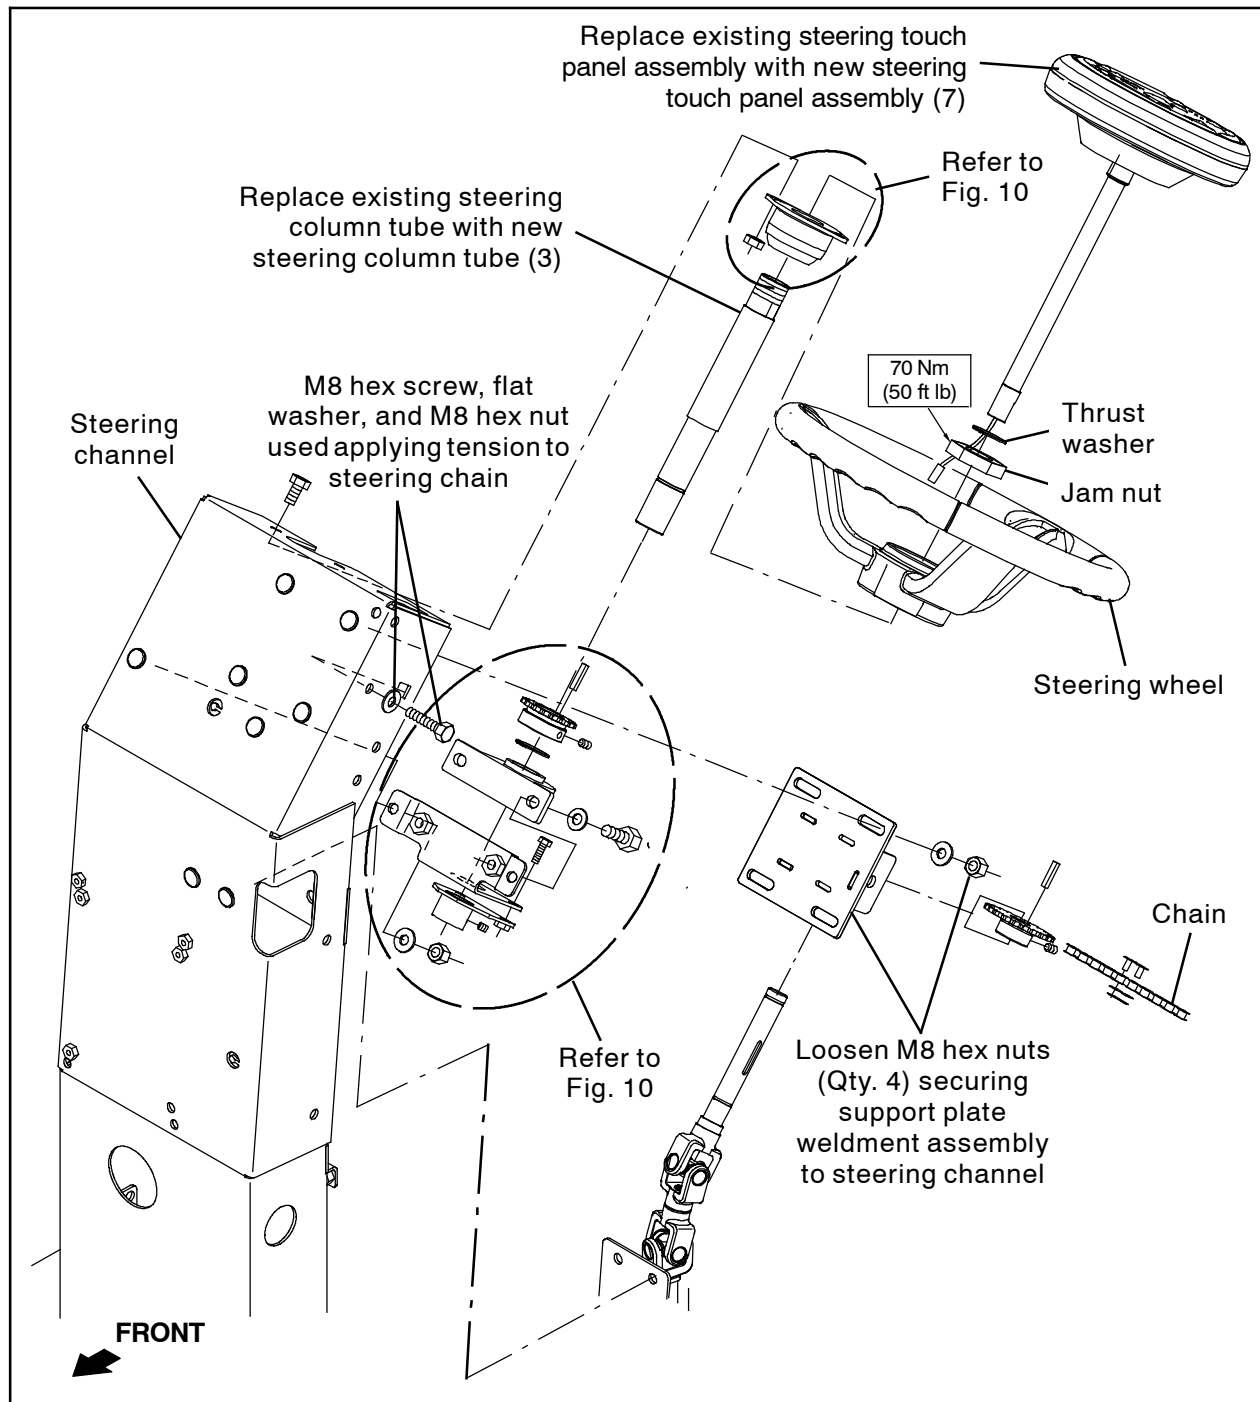
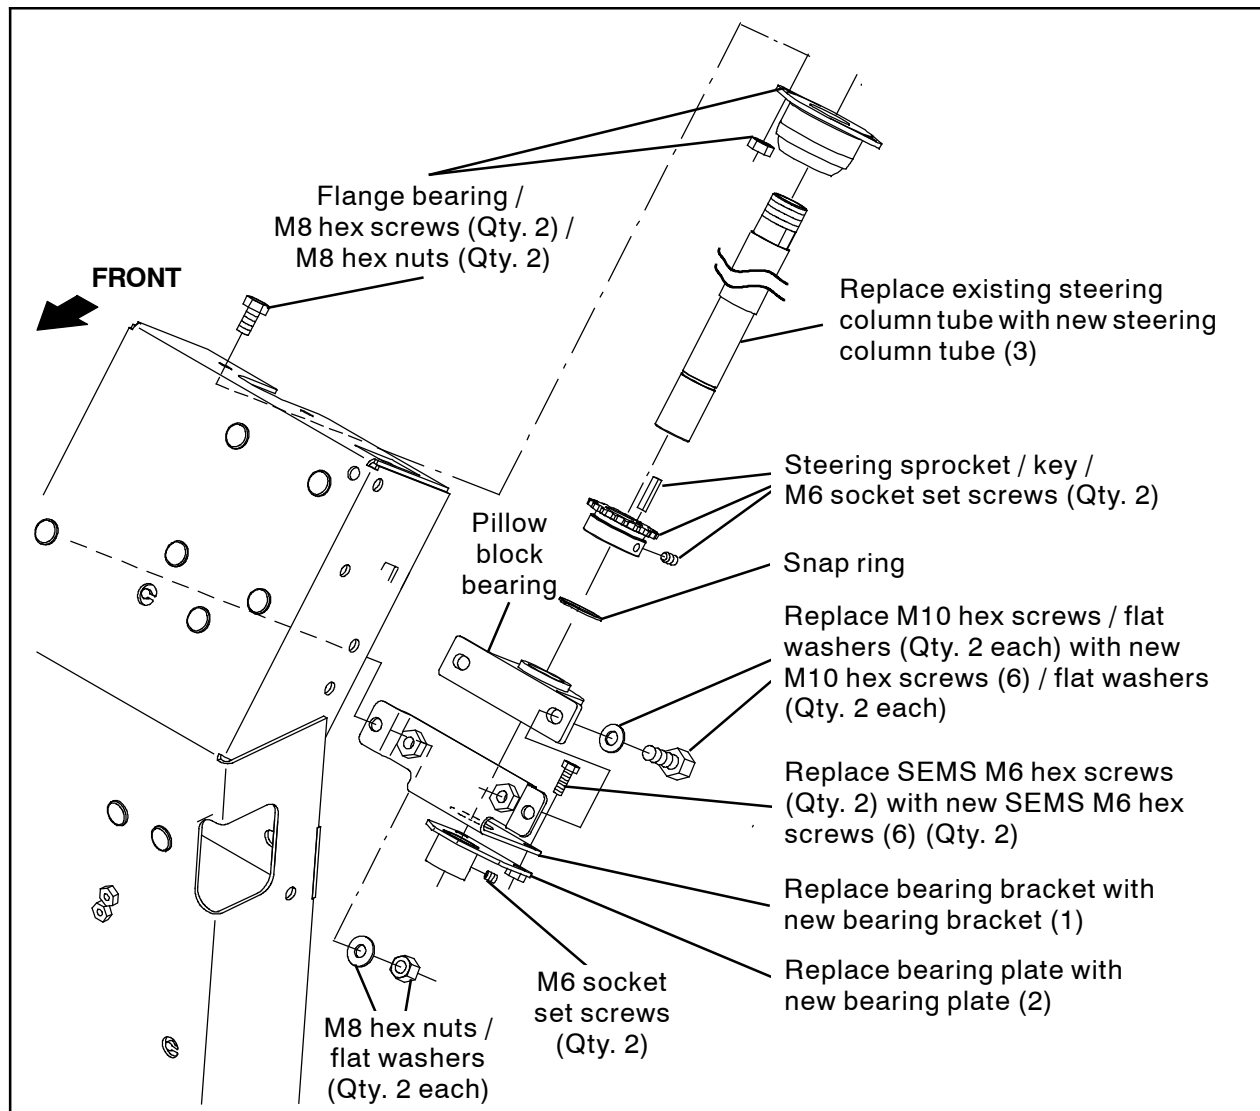
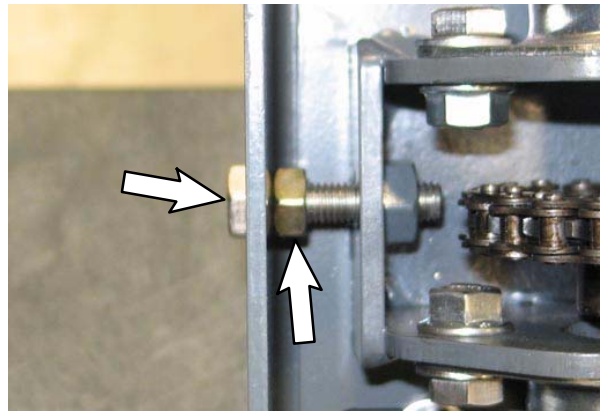
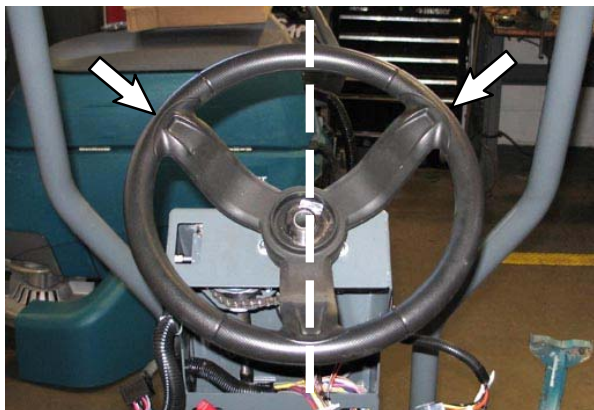

FIG. 2
FIG. 10
FIG. 12
FIG. 16
9. Remove the M8 hex screws and M8 hex nuts securing the flange bearing to the steering channel. Set the M8 hex screws and M8 hex nuts aside. (Fig. 10)
10. Remove the hardware securing the bearing bracket to the steering channel. Set the M8 hex nuts and flat washers aside. (Fig. 10)
11. Remove the steering column tube from the steering channel. (Fig. 10)
12. Remove the flange bearing from the steering column tube. (Fig. 10)
13. Remove the steering sprocket from the steering column tube. Set the steering sprocket, key, both M6 socket set screws, and the snap rings aside. (Fig. 10)
14. Remove the pillow block bearing / bearing bracket / support plate from the steering column tube. Discard the steering column tube. (Fig. 10)
15. Remove the pillow block bearing from the support bracket. Set the pillow block bearing aside. Discard both M10 hex screws and flat washers. (Fig. 10)
16. Remove the M6 socket set screws from the bearing plate. Set the M6 socket set screws aside. Discard the support bracket / bearing plate assembly. (Fig. 10)
17. Install the new support bracket (1) onto the steering channel. (Fig. 10)
18. Slide the steering sprocket / key onto the new steering column tube (3) and align one of the socket set screws in the steering sprocket over the key. (Fig. 10)
19. Tighten the socket set screws enough to hold the steering sprocket / key into place on the steering column tube (3). (Fig. 10)
20. Install the snap rings onto the steering column tube (3). (Fig. 10)
21. Install the pillow block bearing and flange bearing onto the steering column tube (3). (Fig. 10)
22. Position the steering column tube (3) into the steering channel and use two M10 hex screws (5) and two flat washers (4) to install the pillow block bearing onto the support bracket (1). (Fig. 10)
23. Reinstall the flange bearing onto the steering channel. (Fig. 10)
25. Position one of the set screws in the steering sprocket on the steering column tube (3) over the key and align the steering sprocket with the other sprocket installed on the support plate weldment. (Fig. 10)
26. Hold a straight edge across both steering sprockets and tighten the socket set screws in the steering sprocket on the steering column tube (3). Tighten the socket set screw over the key first. Torque to 7.5- 9.8 Nm / 66.4- 86.7 in lbs. (Fig. 10)
27. **Newer Design Machines:** Reinstall the steering tension hardware and use hardware to tighten the steering chain tension. Tighten the lock nut against channel when through tightening the chain tension. (Fig. 12 / Fig. 10)
32. Install the steering wheel onto the steering column tube (3) and align the steering wheel. **DO NOT INSTALL THE JAM NUT ONTO THE STEERING WHEEL / STEERING COLUMN.** (Fig. 16)
38. Reinstall the jam nut to secure the steering wheel to the steering column tube (3). Torque the jam nut to 68 Nm (50 ft / lbs). (Fig. 16 / Fig. 2)
39. Install the thrust washer onto the steering column tube (3) / steering wheel. (Fig. 16 / Fig. 2)
40. Insert the steering touch panel assembly (7) into the steering column tube (3). Position the steering touch panel assembly so controls are oriented properly for operation.
41. Install the saved M6 socket set screws into the new bearing plate (2). (Fig. 10)
42. Use two M6 hex screws (6) to install the bearing plate (2) onto the support bracket (1). (Fig. 10)
43. Tighten the M6 socket set screws in bearing plate (2) to secure the steering touch panel assembly (7) in the steering column tube (3). (Fig. 2)
44. Connect the adapter harness (8) to the steering touch panel assembly (7) harness.
45. Connect the main wire harness to the adapter harness (8) connected to the steering touch panel assembly (7) harness.
48. Start and test the machine. Operate the controls on the steering touch panel assembly (7) to ensure all the controls operate properly.